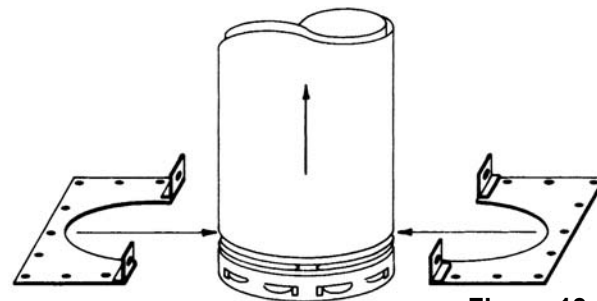

Figure 13
- Surround the Vent Pipe with the two identical Support Plate halves. See **Figure 13**. Engage the plate edges in the uppermost pipe recess as described in **Step 2**. Use two pair of bolts and nuts to hold the plate halves together. (Four predrilled tabs are provided for this purpose.)